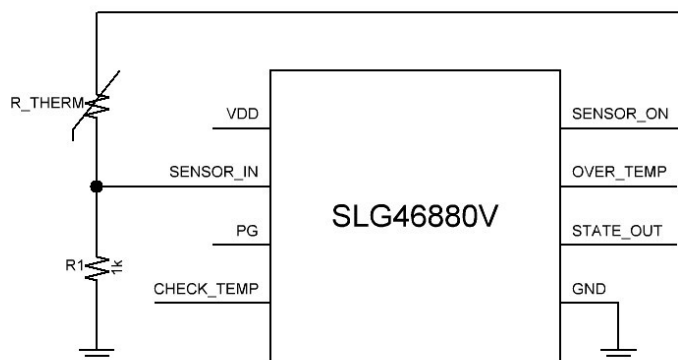

Figure 10: Example #1 Application Circuit
For a more specific use of this F(1) sequence, it can be used to flag an overtemperature condition while the state machine is transitioning to a new state and the device that the GreenPAK is sensing already has a power good condition. For this application, the SENSOR_ON output is connected to one node of an NTC thermistor. Another resistor is connected to the other node of the thermistor and to ground to make a voltage divider for the SENSOR_IN input (Figure 10).